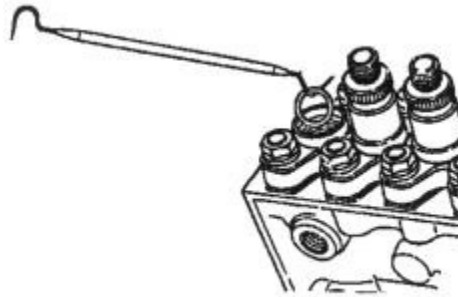

Figure 8
7. Using a pick, remove the copper delivery valve washer from the top of the pumping element. Be careful not to scratch the top of the plunger/barrel assembly during this process. Discard the used delivery valve washer. A new washer, P/N 4778483, will be used during reassembly (Figure 8). NOTE: May not necessarily want to remove washer unless it is loose and may hinder dial indicator setup.